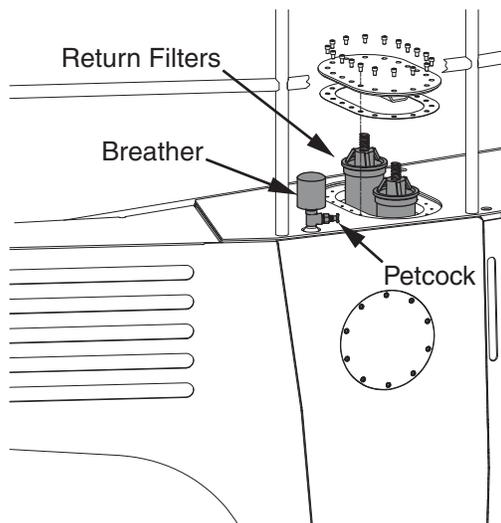
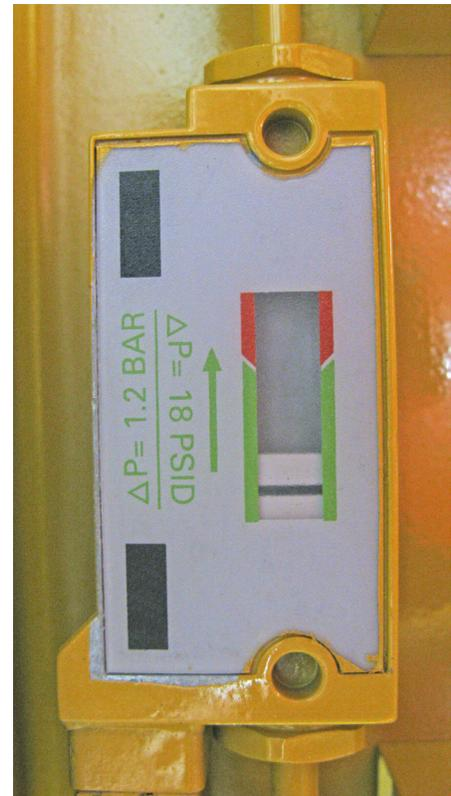

Figure 1 Return Filters (model L60 shown)
Figure 2 Differential Pressure Indicator
The return filters are accessed from the deck. See Figure 1. The indicator for the return filters is shown in Figure 2. See the parts manual for your machine for the specific location.
The differential pressure indicator in Figure 2 indicates the elements are in working condition. As the elements collect contamination, the indicator plunger will rise into the red zone, indicating that the elements must be replaced.
1. Shut down the machine and vent captive pressure by opening the petcock at the breather. See Figure 1.